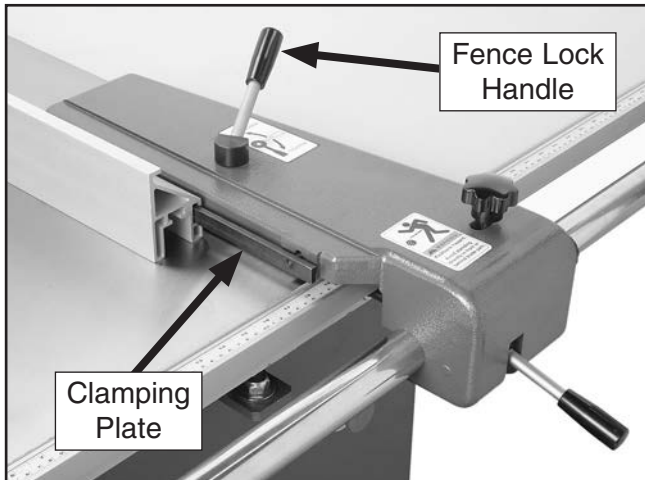

Figure 40. Installing the rip fence.
24. Slide the aluminum rip fence onto the clamping plate as shown in **Figure 40**, and lock it with the fence lock handle.